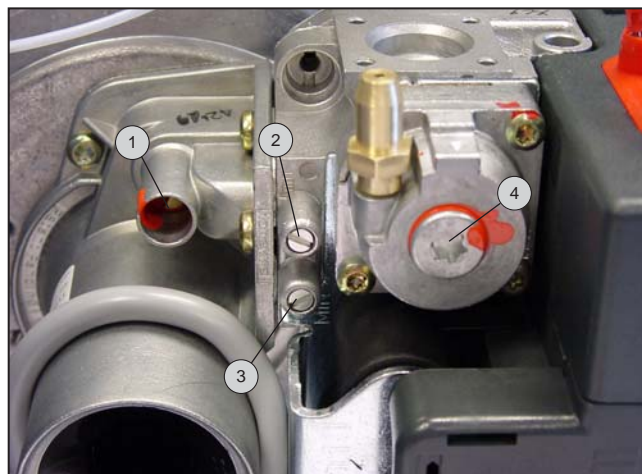

Fig. 16
- Adjust the % of CO₂ to the figure shown in the table of setting parameters on Page 15 by turning the gas flow adjuster screw on the gas valve. (Fig. 16)